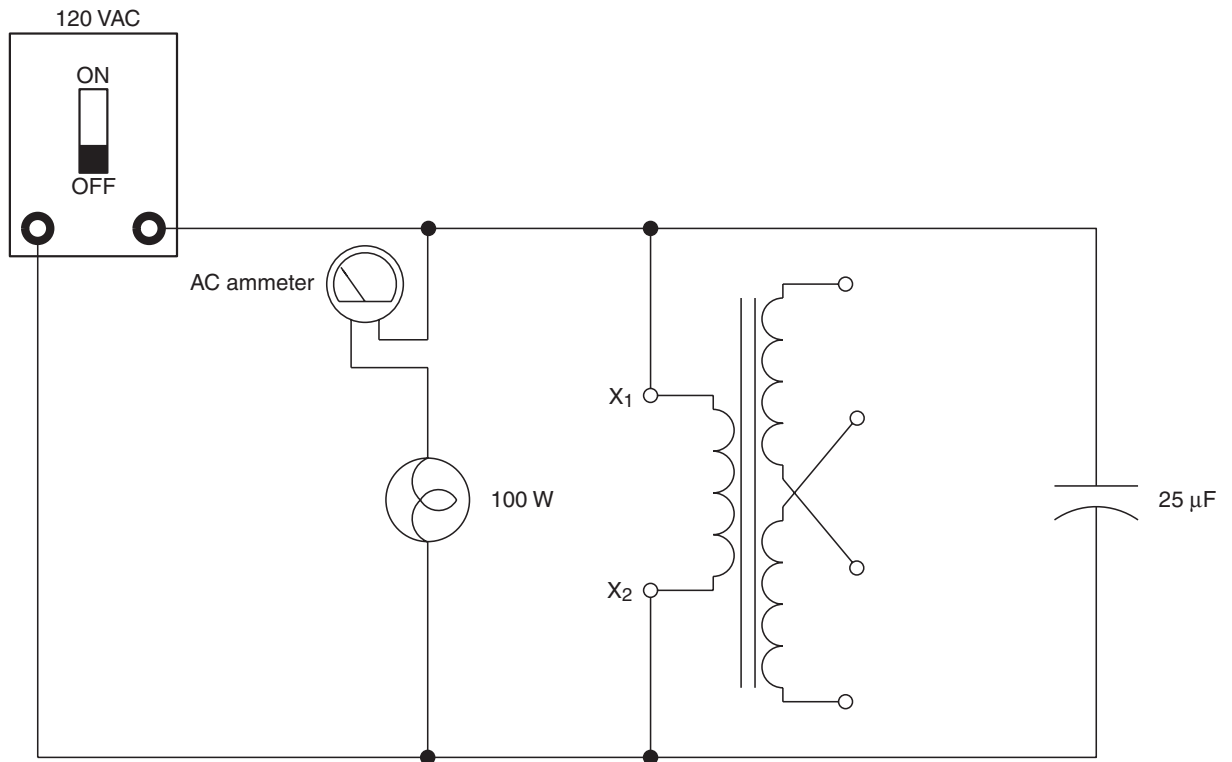

Figure 17-5 Measuring current through the resistive branch.
5. **Turn off the power supply** and reconnect the circuit to measure the current through the resistive branch as shown in Figure 17-5.